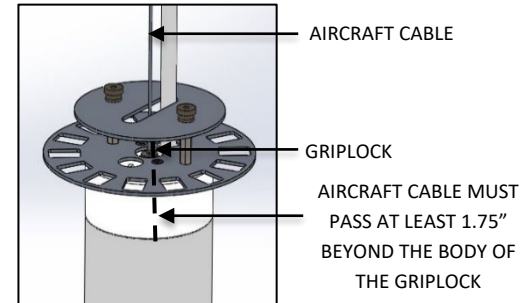

FIG. 23 – FIXTURE INSTALLATION
6. Raise the fixture and feed the AIRCRAFT CABLE into the GRIPLOCK by pressing the plunger of the GRIPLOCK and insert the AIRCRAFT CABLE into the body of the GRIPLOCK and adjust fixture drop to desired height as shown in FIG. 23.